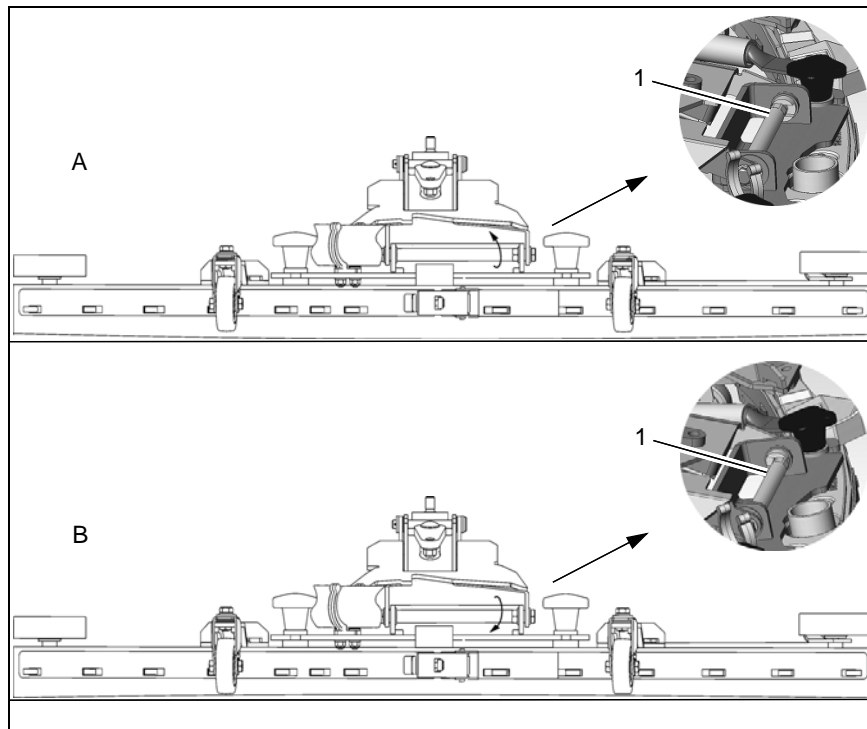

Fig.12
2. Loosen the screws on the eccentric wheel (Fig. 12/1) and adjust the squeegee using the eccentric wheel (SW13) so that the ends of the blade still have contact with the floor.